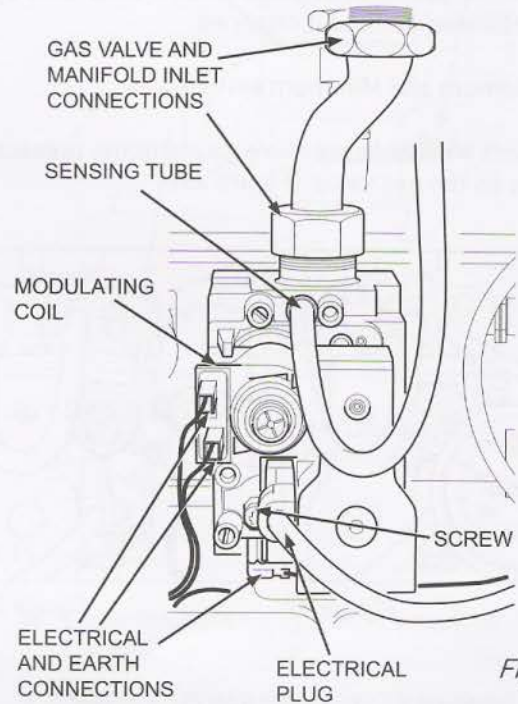

Figure 47
- Release the connection from gas valve and manifold inlet, retaining the washers for use on reassembly (Figure 47).